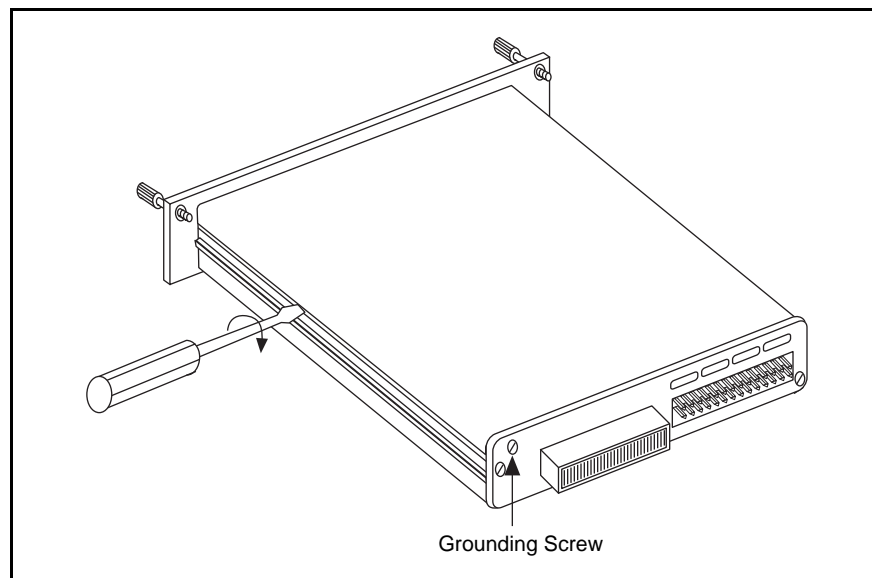

Figure 1. Removing the SCXI Module Cover
Perform the following steps to mount your cable assembly and connect the TBX-1303 to your SCXI module. Refer to Figures 1 and 2 as needed.
4. Unscrew the SCXI module cover grounding screw and remove the module cover with a No. 1 Phillips-head screwdriver (see Figure 1).